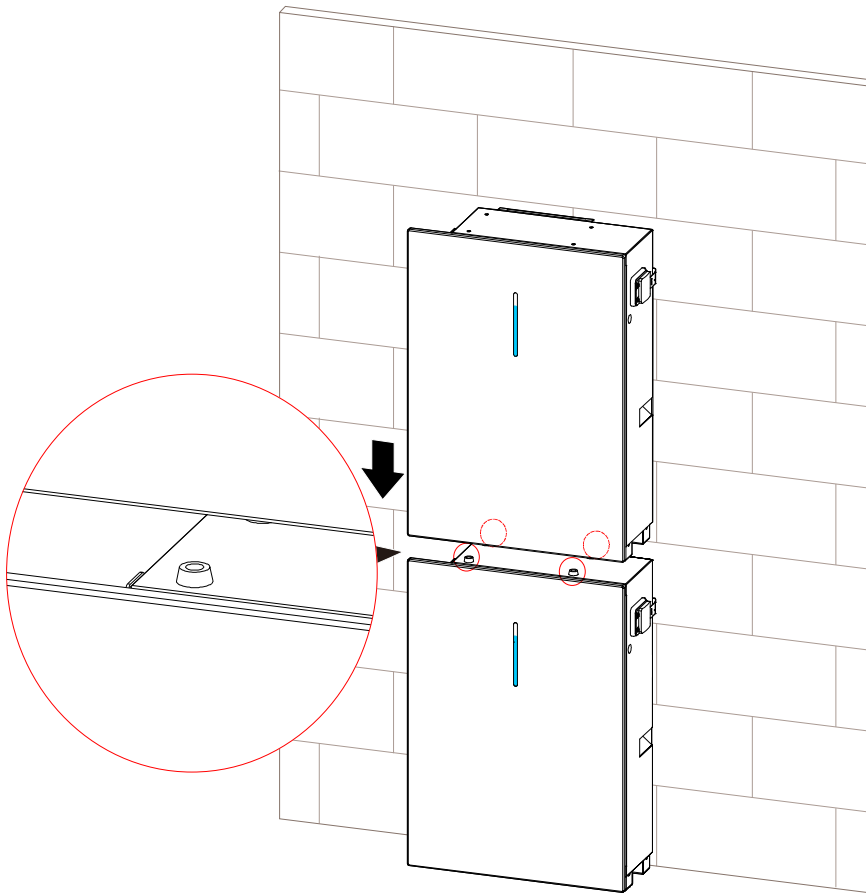

Figure3-16 Install the upper battery
- Step 3 The bottom limit holes of the upper battery pack should match the screw heads on the top of the below battery pack, as shown in Figure3-16.